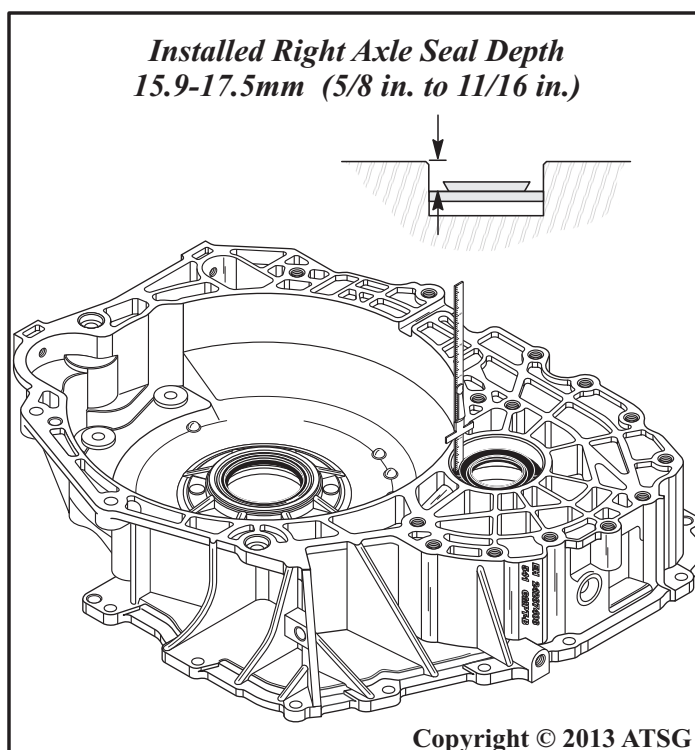

Figure 114
4. If the J-46629 seal installer is not available to you, the installed depth can be measured with small scale ruler, as shown in Figure 114.